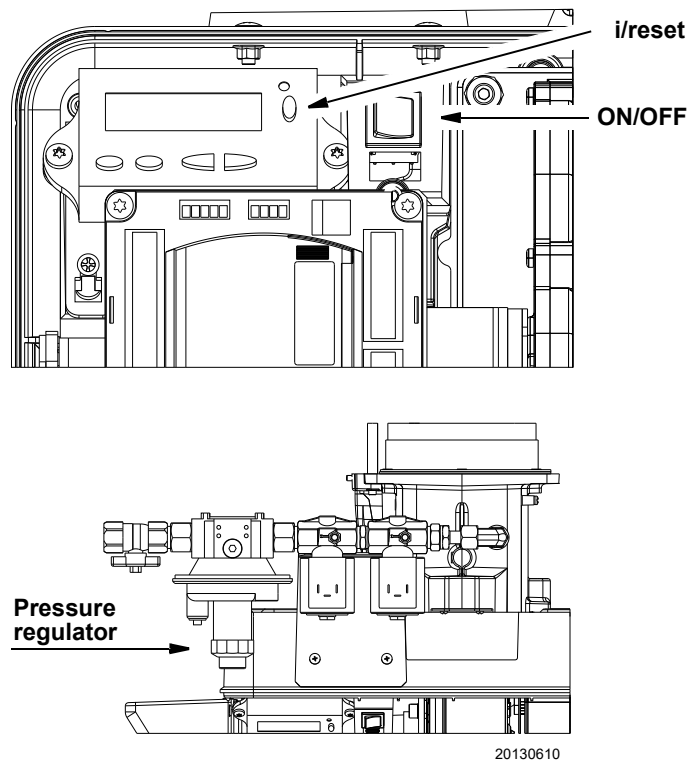

Fig. 162
- Press the switch “ON/OFF” (Fig. 162) selector to “OFF”, standby (OFF).
- Entering the password of the technician (SO) using the buttons “+”, “-” and “i/reset”. See also chapter “Entering the password” on page 40.
Increasing the gas pressure via the pressure regulator (Fig. 162).
Press the switch "ON/OFF" switch to "OFF" (Fig. 162 on page 50).